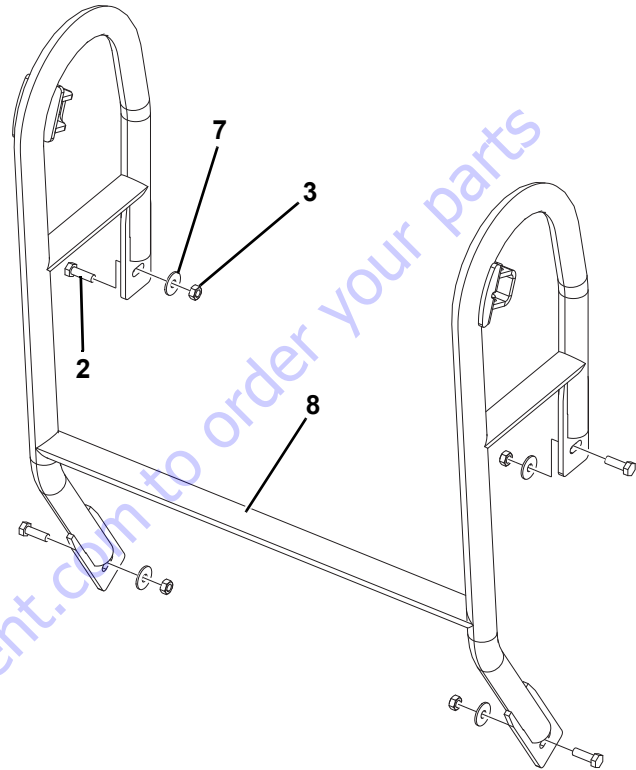

Figure 4-54.
1. Install the SkyGuard Support Bracket (8) onto the welded mounts on platform rails, secure the support bracket using four Bolts (2), relevant Washers (7) and Nuts (3). See Figure 4-54.
4. Position SkyGuard switch assembly with sensor cover onto the SkyGuard Support Bracket (8) as shown in Figure 4-54.